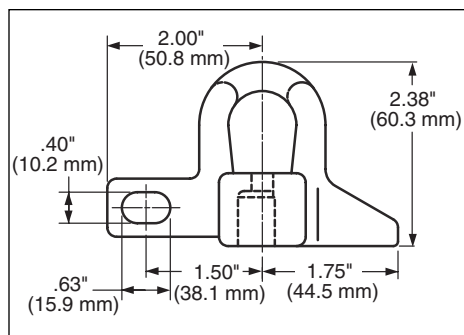

Figure 7.
3. Optional padlock handle is available. (See Table 7, Figure 7.)